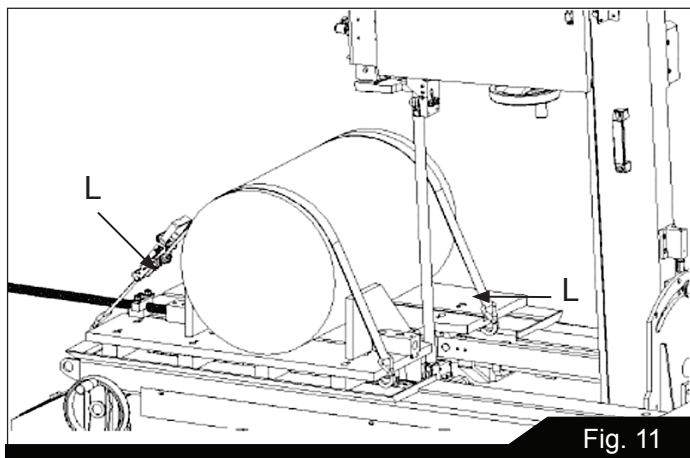

Fig. 11
8. Figure 11 shows an optional clamping procedure to use when working with large diameter pieces. Use the vise plates to support and align the workpiece. Then use the ratchet straps (L, Fig. 11) hooked on the edge of the table to secure the workpiece and prevent unintended movement.